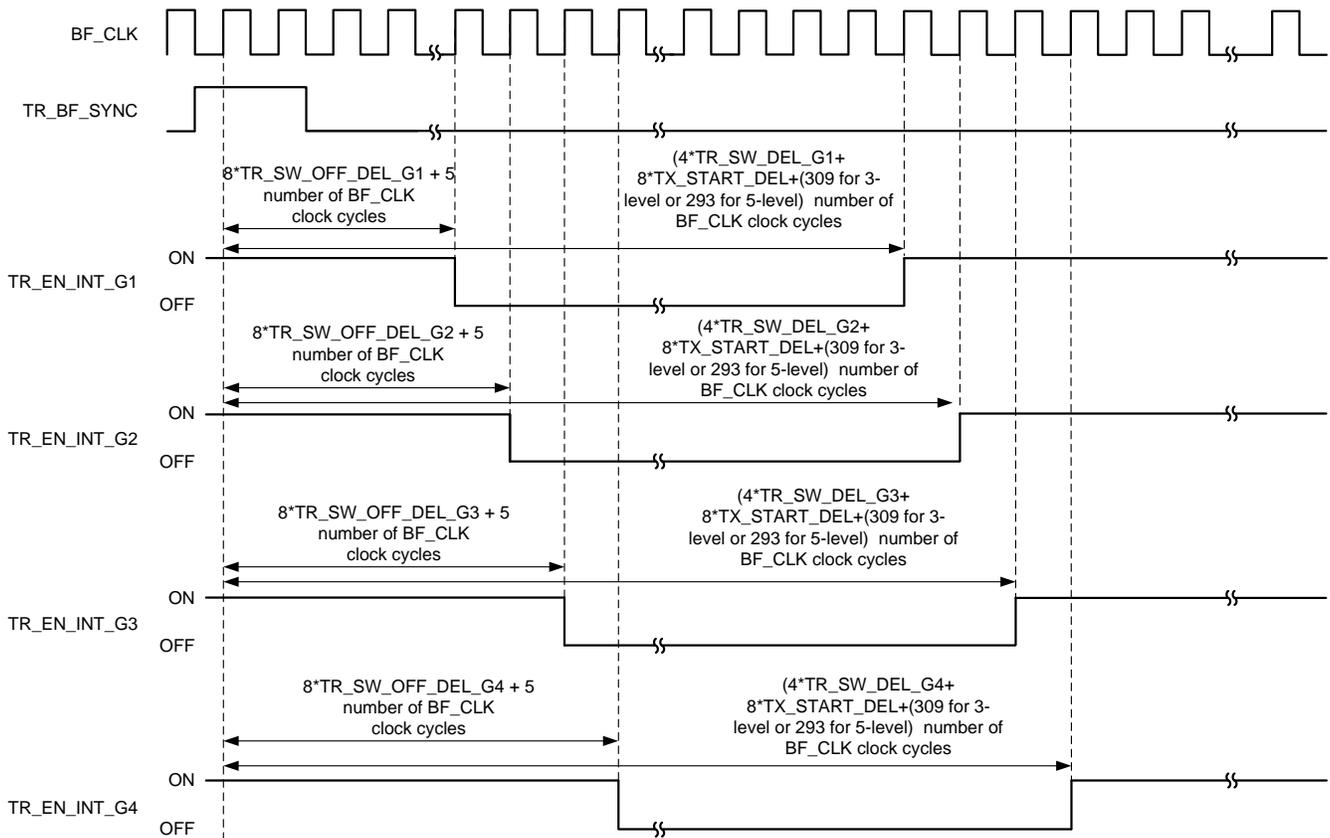

Figure 59. T/R Switch Control Signal for TR_SW_DEL_MODE = 0
- T/R switch turn OFF operation: TR switch of all the channels starts to turn OFF as soon as TR_BF_SYNC pulse is applied. The device provides a flexibility to change the turn OFF start instant of TR switch across four group of channels. TR switch starts to turn OFF whenever signals TR_EN_INT_G1/G2/G3/G4 go low. These signals go to low after $(8 \times N + 5)$ number of BF_CLK clock cycles from the BF_CLK edge on which TR_BF_SYNC pulse is latched. Here N represents a decimal value programmed in register TR_SW_OFF_DEL_G1/G2/G3/G4; see Figure 59.